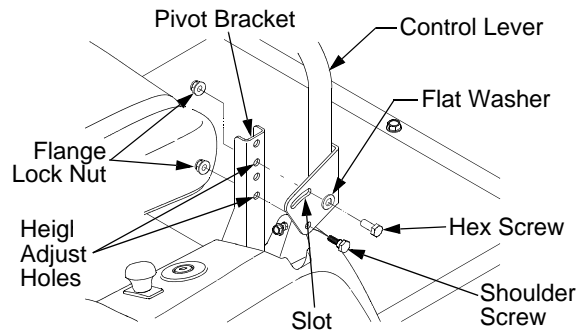

Figure 20
- While supporting the control lever to keep it from falling, remove the hex insert flange lock nut and shoulder screw from the bottom of the control lever and pivot bracket. Refer to Figure 20.
If not already loose, loosen the flange lock nut and rotate the control lever either forward or rearward to the desired position. See Figure 20.